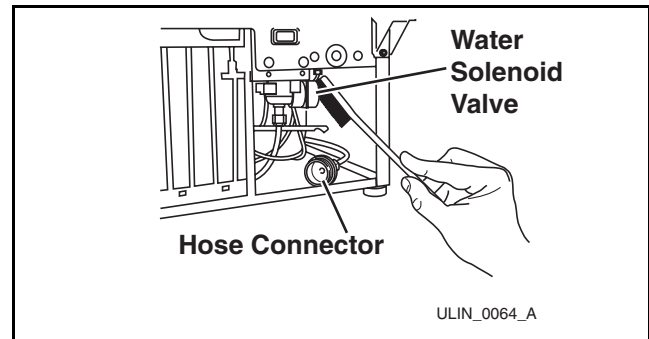

Figure 10
5. Disconnect the hose connector from the water solenoid valve (**Figure 10**).
7. Re-connect the water supply hose connector to the water solenoid valve (**Figure 10**). Tighten the connector securely.